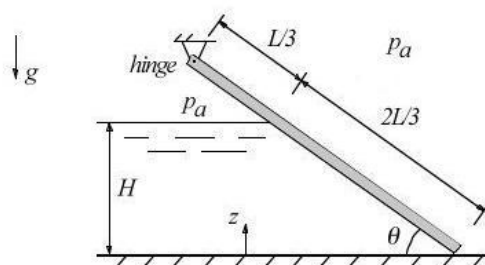

Figure P2.55
2.55 A steel gate of density ρ_s , width w , thickness t , and length L is pivoted at a frictionless hinge, as shown in Figure P2.55. The dam is filled with water of density ρ until the gate is about to open. The atmospheric pressure is p_a .